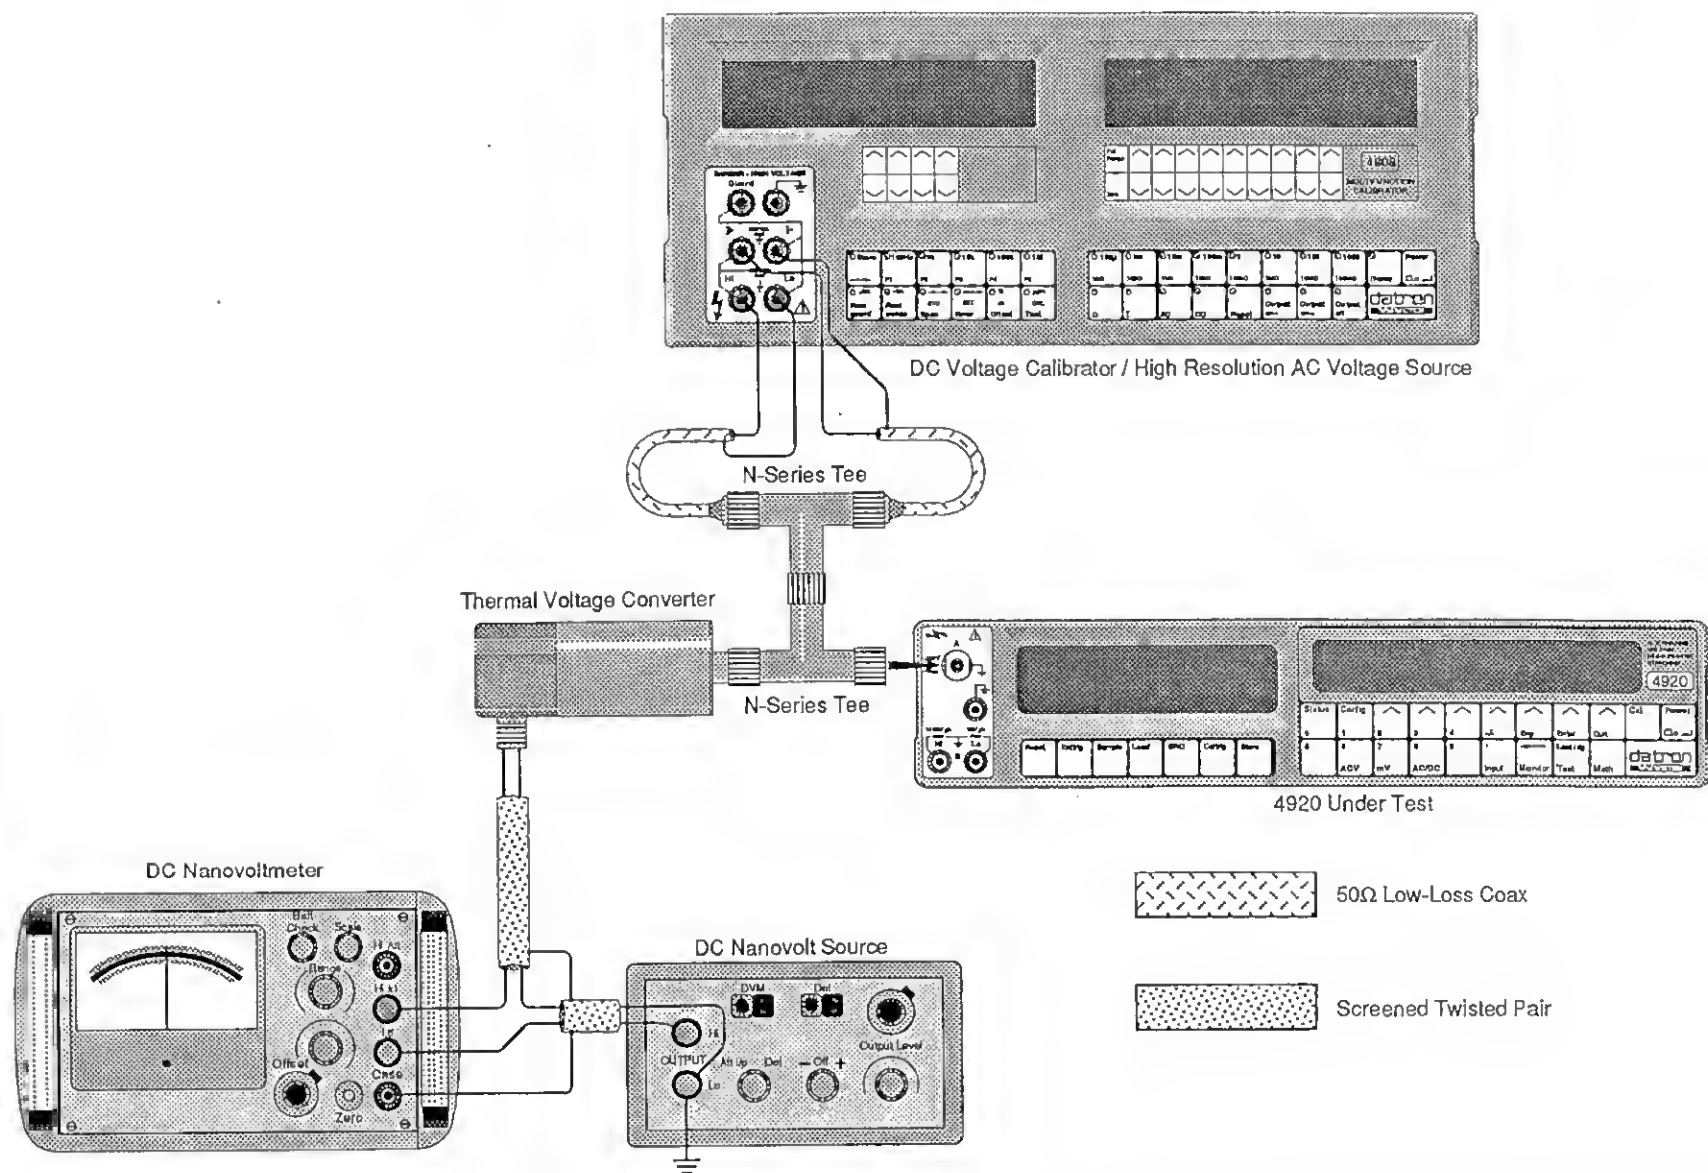

FIG. 7.1 ACV FULL RANGE PERFORMANCE VERIFICATION
2. Connect the DC voltage calibrator to the 4920 and thermal voltage converter as shown in Figure 7.1 and select the 4920's ACV function.